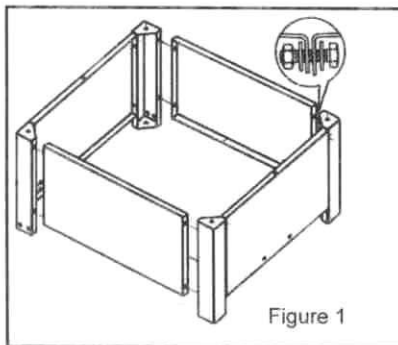

Figure 1
3. Assemble the work stand as shown in **Figure 1**.